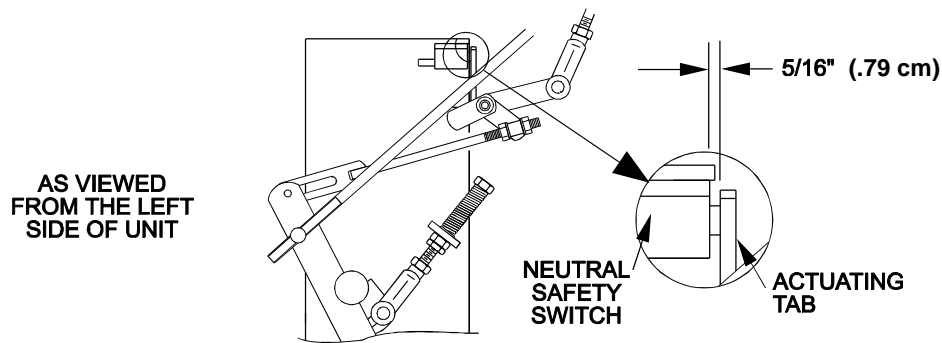

FIGURE 17
- Pull the speed control lever back to neutral. Check that the neutral safety switch actuating tab has depressed the plunger of the switch so that there is about 5/16\" (.79 cm) between the tab and the switch. See Figure 17. If necessary, move the switch fore and aft.